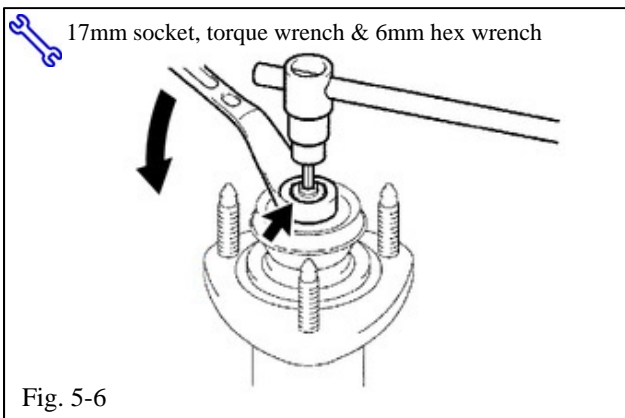

Fig. 5-6
**||** (g) Fully tighten the supplied nut (Fig. 5-6).